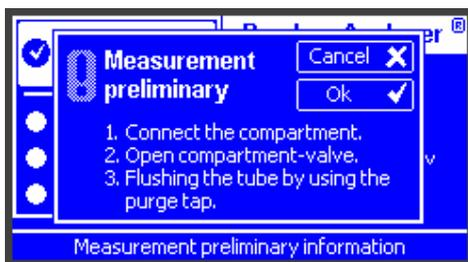

Fig. 6.09
2. Firstly the "Measurement preliminary" dialog with important pre-requisites for a measurement (fig. 6.09) turns up. All 3 points have to be fulfilled/ carried out before starting a measurement. This implies that a leakage free hose connection between the gas filled compartment and the device has been realized. The maximum inlet pressure of the SF₆-Breaker-Analyser is 14 bar. The inlet pressure is indicated in absolute pressure (ambient plus compartment).